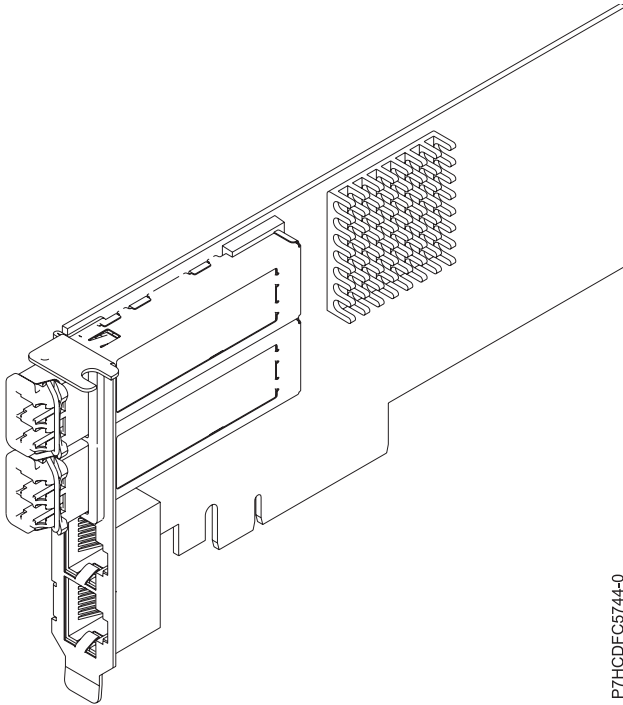

Figure 57. PCIe2 2x10GbE SR 2x1GbE UTP Adapter
The PCIe2 2x10GbE SR 2x1GbE UTP adapter is a PCI Express generation-2, four-port Ethernet unified wire adapter with a PCI Express 2.0 host bus interface. The adapter is optimized for cloud computing, virtualization, storage, and other data center applications. The four port adapter provides two 10 Gb Ethernet ports and two 1 Gb Ethernet ports. The two 10 Gb small form-factor pluggable (SFP+) single root (SR) transceiver ports are used for connectivity with other servers or switches in the network. Each SFP+ (SR) port provides Ethernet connectivity with a nominal data rate of 10 Gbps (gigabits per second), and uses the SFP+ copper twinaxial cables up to 5 m (16.4 ft) in length. Each of the RJ45 ports provides Ethernet connectivity at a data rate of 1 Gbps. The link aggregation and failover features of the adapter are ideal for critical network applications that require redundancy and high availability. Figure 57 on page 192 shows the FC 5745 adapter.